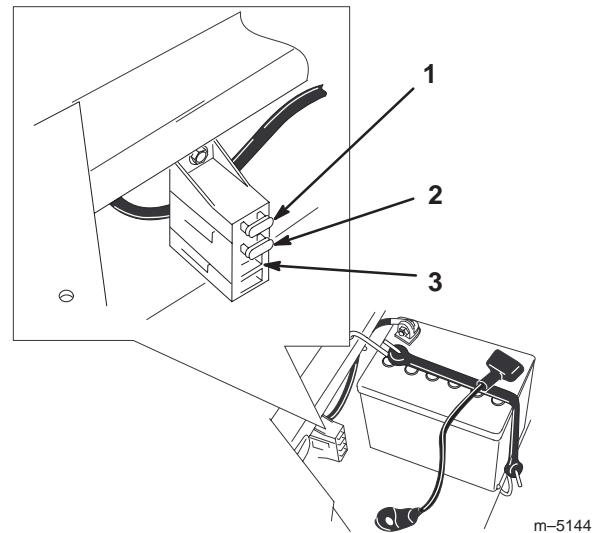

Figure 43
- Raise the seat to gain access to the fuse holder (Fig. 43).
- To replace a fuse, pull out on the fuse to remove it (Fig. 43).